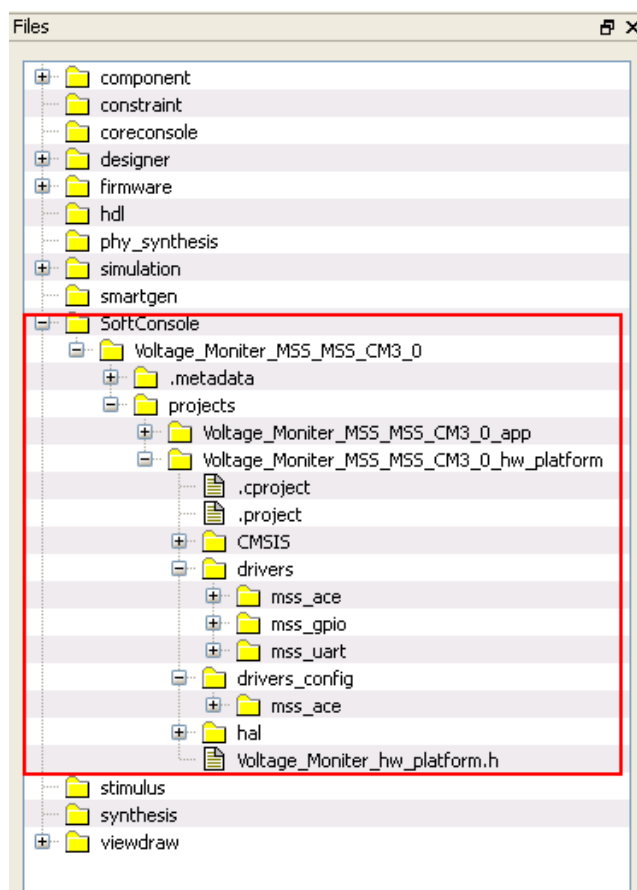

Figure 58 · Files Window
- Confirm that the SoftConsole folder is created with the folders and files as shown in Figure 58 .